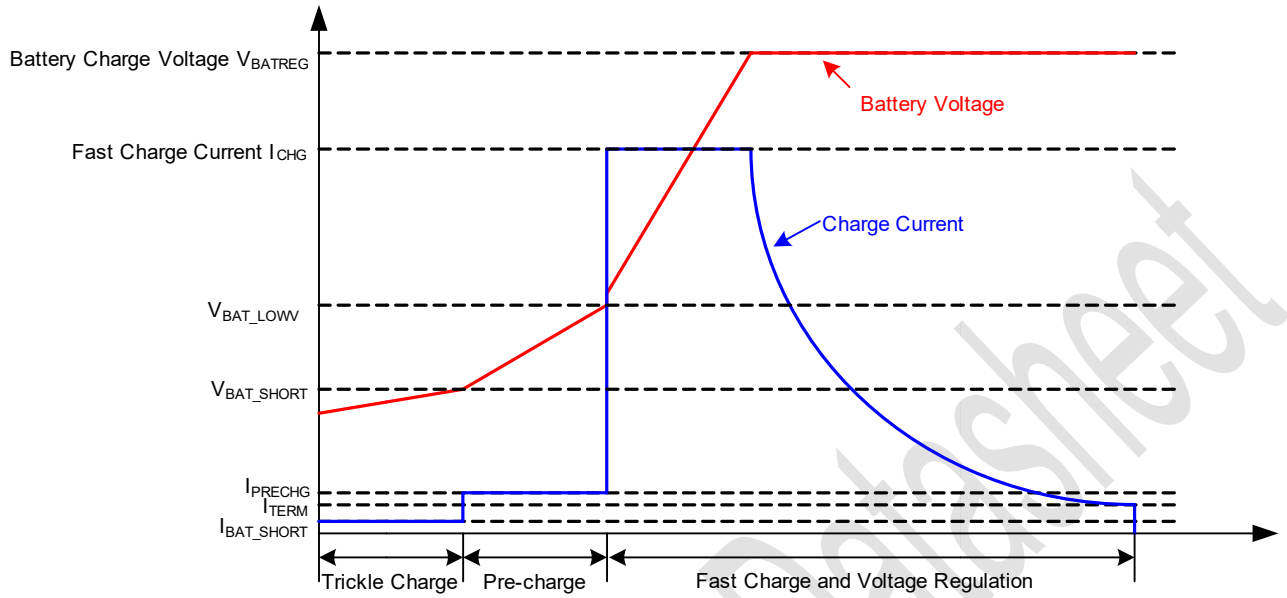

Figure 5. Battery Charge Profile
In Charge Mode as shown in the table of Device Functional Mode, the devices charge the battery in four sub-charge-modes: trickle charge, pre-charge, Constant Current (CC) charge and Constant Voltage (CV) charge as shown in Figure 5. If the battery voltage falls below  $V_{BAT\_SHORT\_FALL}$ , the battery charge battery with trickle charge current  $I_{BAT\_SHORT}$ , when the battery voltage rises above  $V_{BAT\_SHORT\_RISE}$  and below  $V_{BAT\_LOWV\_RISE}$ , the charger charges battery in precharge mode with charge current at  $I_{PRECHG}$ . Fast charge starts once battery voltage rises above  $V_{BAT\_LOWV\_RISE}$ . When battery voltage is close to battery charge voltage  $V_{BATREG}$ , the charger goes into CV mode and charge current starts to decreases. When charge current decreases below termination current  $I_{TERM}$ , charge is terminated and charge cycle ends. Following charge termination, if the battery voltage follows below  $(V_{BATREG} - V_{RECHG\_HYS})$ , a new charge cycle restarts.